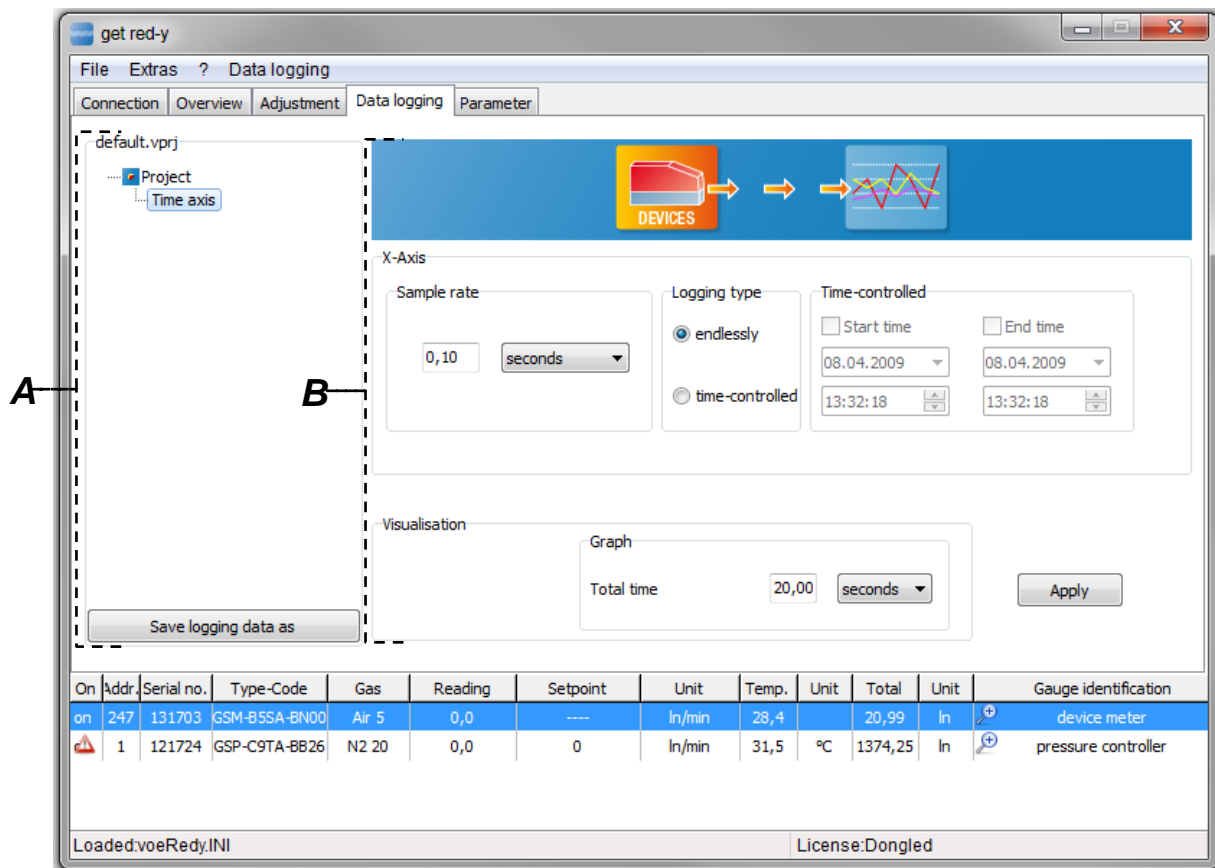

Figure 37: Representation of the Data Logger tab
- A. Projection tree of the Data Loggers:** The Projection tree is the central administrative center for the Data Logger. You can set new channels (Instruments or controllers), signals and the time behavior. With most nodes you can use the right mouse button to open a dialog box in order to execute different functions (see Figure 37). Use the [Save Data as] button to save the settings of the Projection tree.